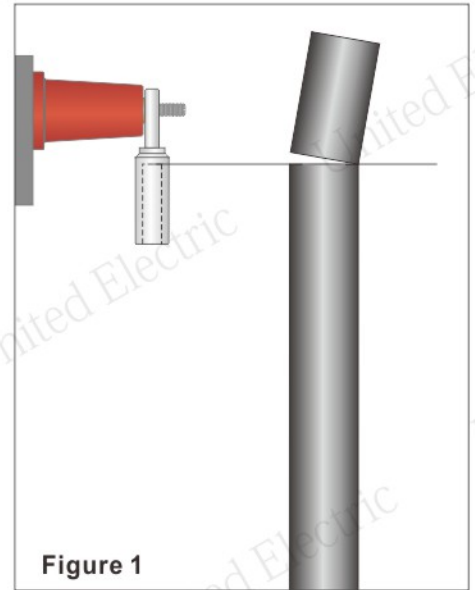

Figure 1
- Clean and cut the cable to requested length on site as shown in figure 1.